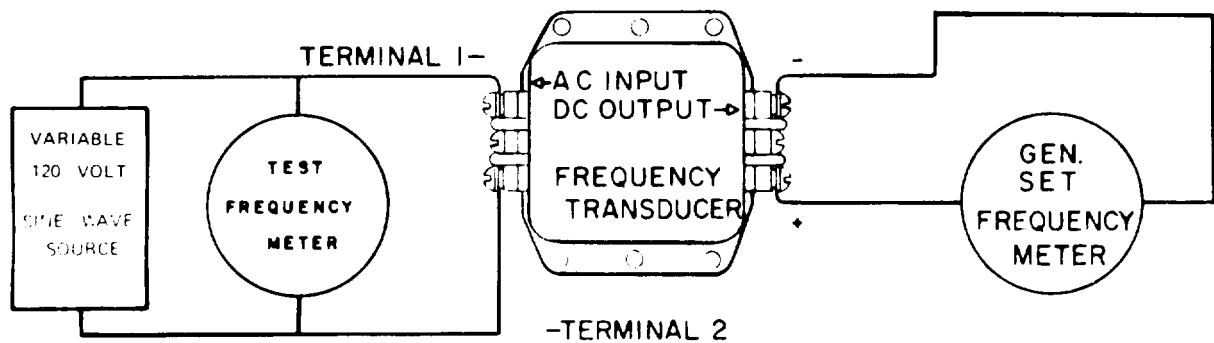

Figure 3-54. Frequency Meter and Transducer Test Setup
- (1) Refer to the Operator and Unit Maintenance Manual and remove, clean, and inspect frequency meter and transducer.
- (2) Install frequency meter and transducer in a test setup as shown in figure 3-54.